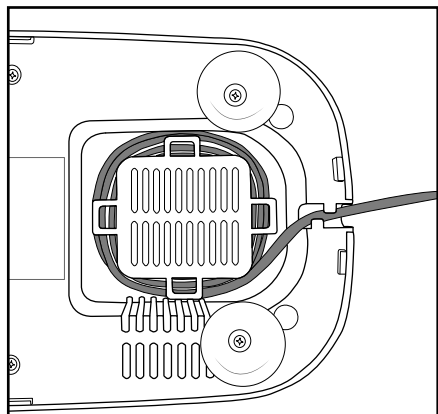

Fig. 3: Cord retainer
- Wrap the power cord ④ around the cord retainer on the bottom of the appliance (Fig. 3):